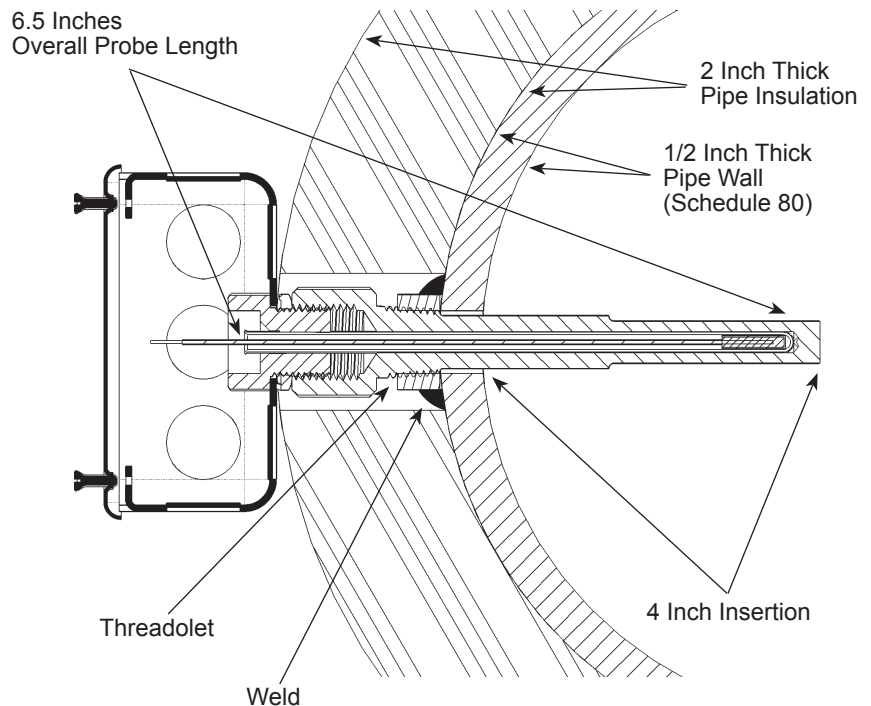

Fig 9: Typical Installation Identification and Dimensions
- Application:** Figure 9 shows a typical four-inch thermowell and four-inch immersion probe installed into an eight inch pipe. In a properly insulated pipe with liquid or steam, the temperature is essentially the same across the entire cross section of the pipe. Usually thermowells are sized to extend to the center of the pipe; however, shorter thermowells will give proper temperature readings if properly insulated. The shorter thermowells are used in pipes with high flow velocities. See Application notes "Thermowells Explained" on our web site BAPIHVAC.com